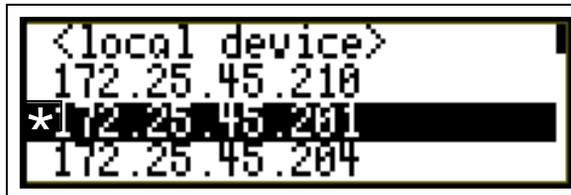

Figure 5-3. List of Systems Available for Remote Control
2. On the X75-RCP, press the **Remote** button to bring up a list of available units for control (see Figure 5-3).